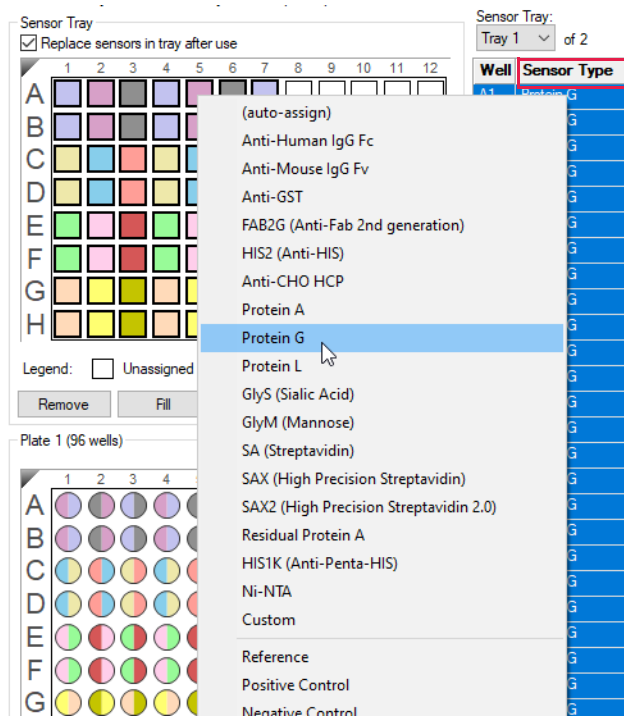

Figure 5-38: Populating the Sensor Tray Map with Second Biosensor Type
- Select the sensors in the **Sensor Tray Map** that contain the second biosensor type, right-click and select the second biosensor type (see Figure 5-38).